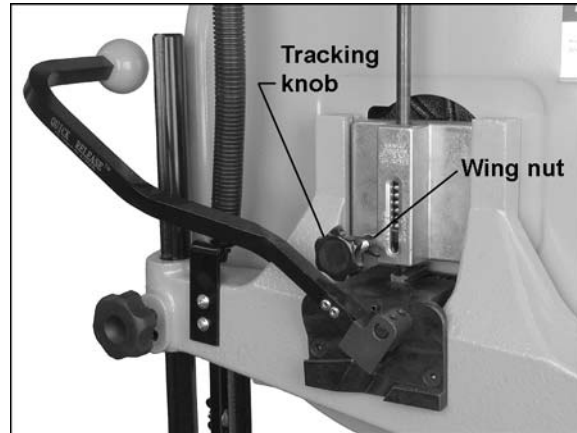

Figure 45
Refer to Figure 45.
4. If the blade tends to shift to one side or the other of the wheel, loosen *wing nut* (Figure 45).